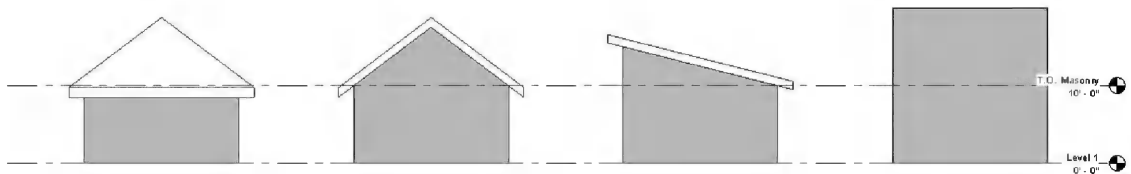

**FIGURE 6-3.9**
33. Set the **Slope**, or roof pitch, to 3/12 (Figure 6-3.9) on the *Properties Palette*.